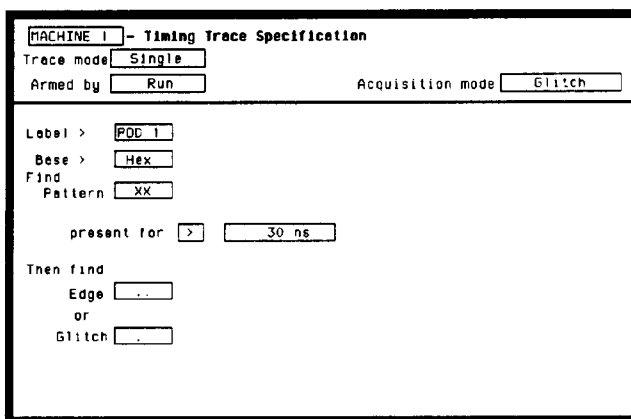

Figure 3-38. Threshold Accuracy Trace Specification
4. Set the **Timing Trace Specification** as in figure 3-38. Follow steps a through d if you are unfamiliar with menus.